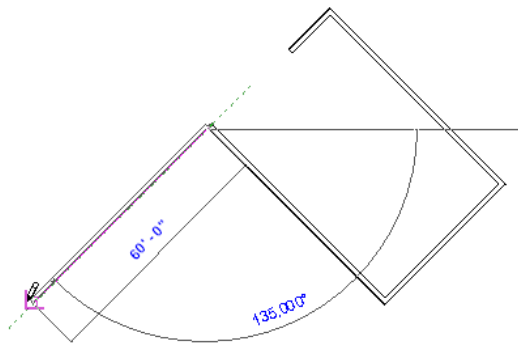

Figure 2-39 Sketching the fifth inclined wall segment
9. Similarly, create the next inclined wall segment of 60'0" length, as shown in Figure 2-39.